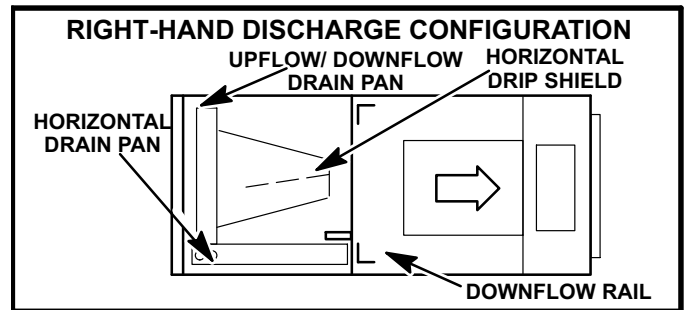

FIGURE 15
- 3- No further adjustment is necessary. Set unit so it is sloped towards the drain pan ( $1/4"$  [6mm]). See figure 15.